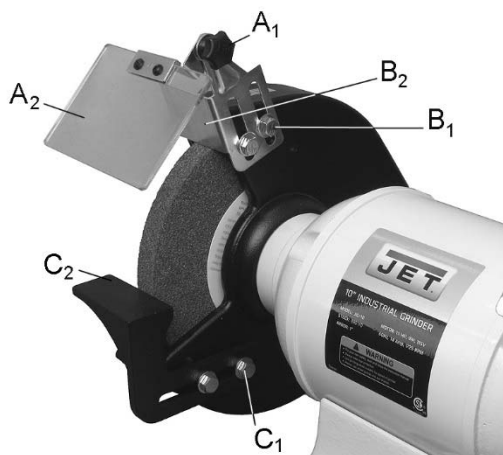

Figure 10: eye shield adjustment
1. Loosen lock knob (A₁, Figure 10).
Refer to Figure 10.